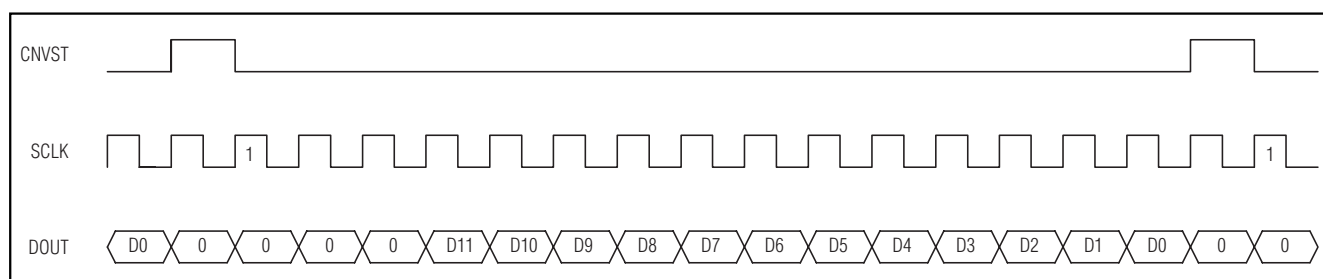
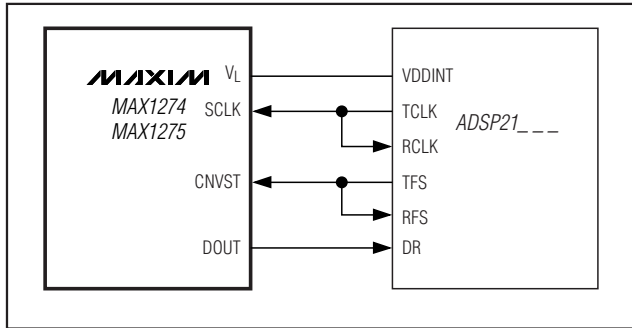

Figure 17. DSP Interface—Continuous Conversion
Figure 19. Interfacing to the ADSP21\_--
The MAX1274/MAX1275 can also be connected to the TMS320C54\_ by using the data transmit (DX) pin to drive CNVST and the CLKX generated internally to drive SCLK. A pullup resistor is required on the CNVST signal to keep it high when DX goes high impedance and 0001hex should be written to the DXR continuously for continuous conversions. The power-down modes may be entered by writing 00FFhex to the DXR (see Figures 17 and 18).
The MAX1274/MAX1275 can be directly connected to the ADSP21\_ \_ \_ family of DSPs from Analog Devices, Inc. Figure 19 shows the direct connection of the MAX1274/MAX1275 to the ADSP21\_ \_ \_. There are two modes of operation that can be programmed to interface with the MAX1274/MAX1275. For continuous conversions, idle CNVST low and pulse it low for one clock cycle during the LSB of the previous transmitted word. The ADSP21\_ \_ \_ STCTL and SRCTL registers should be configured for early framing (LAFR = 0) and for an active-high frame (LTFS = 0, LRFS = 0) signal. In this mode, the data-independent frame-sync bit (DITFS = 1) can be selected to eliminate the need for writing to the transmit-data register more than once. For single conversions, idle CNVST high and pulse it low for the entire conversion. The ADSP21\_ \_ \_ STCTL and SRCTL registers should be configured for late framing (LAFR = 1) and for an active-low frame (LTFS = 1, LRFS = 1) signal. This is also the best way to enter the power-down modes by setting the word length to 8 bits (SLEN = 1001). Connect the  $V_L$  pin to the ADSP21\_ \_ \_ supply voltage when the MAX1274/MAX1275 are operating with a supply voltage higher than the DSP supply voltage (see Figures 17 and 18).